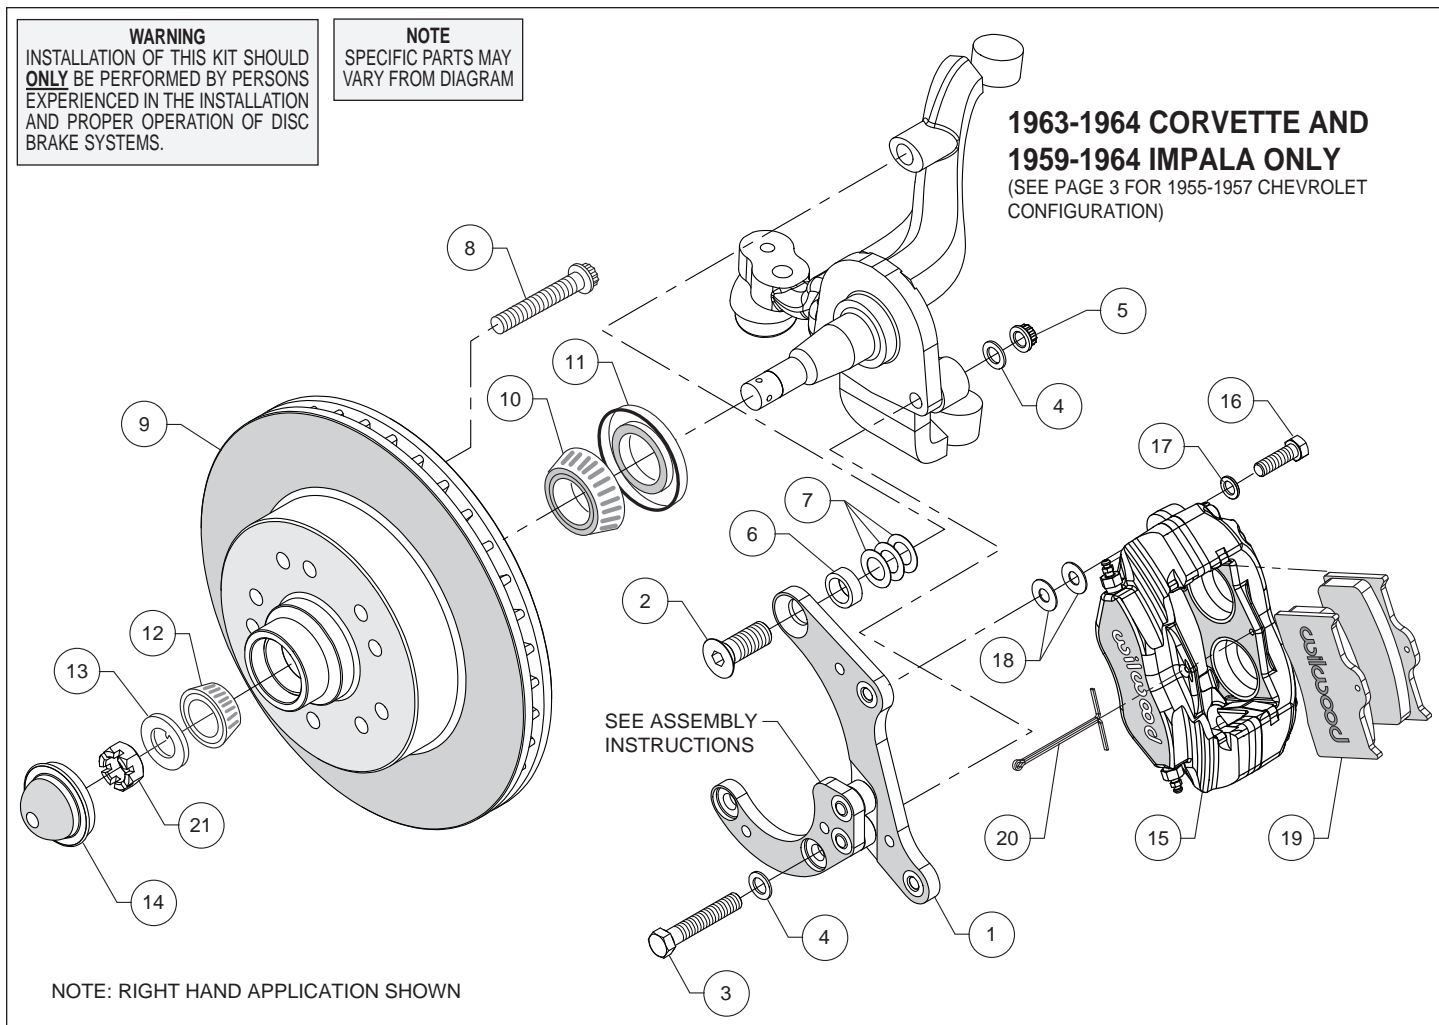
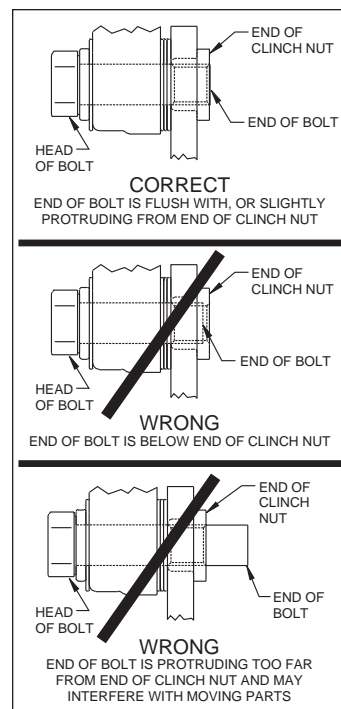

Figure 1. Typical Installation Configuration, 1963-1964 Corvette, 1959-1964 Impala/Belair
Figure 4. Clinch Nut Engagement Diagram
**Assembly Instructions** (numbers in parenthesis refer to the parts list and Figures 1 and 2 on the preceding pages): **CAUTION: All mounting bolts must fully engage clinch nuts.** Be sure to check that all bolts are either flush or protruding through flanged side of clinch nut after shimming, Figure 4.
- The caliper bracket (1) should initially be installed with clean, dry threads on the mounting bolts. The bracket has been assembled at the factory for alignment purposes. Loosen the two bolts that secure the brackets together so that the bolts are hand tight only. This will enable the bracket assembly to be adjusted to accommodate various spindle tolerances during assembly.
- Orient the bracket as shown in Figure 1 and Photo 1, and install using bolts (2) in the upper hole. Place a .345" thick spacer (6) positioned between the bracket and spindle, as shown in Figure 1. Initially use three .015" shims (7) on the upper bolt between the bracket and spindle, Figure 1. Install bolts (3), washers (4) and nuts (5) in the lower holes, Figure 1. Temporarily tighten the mounting bolts, followed by the two bracket-to-bracket bolts. **NOTE: The bracket must fit squarely against the mounting points on the spindle.** Inspect for interference from casting irregularities, machining ridges, burrs, etc. Later, after the bracket alignment has been checked, the bolts will be secured using red *Loctite*® 271.
- Pack the large inner bearing cone (10) with high temperature disc brake bearing grease (available from your local auto parts store) and install into the backside of the hub (9), Photo 3.
- Install the grease seal (11) by pressing into the backside of the hub (9), flush with the end of the hub.
- Temporarily install the hub/rotor (9) onto the spindle using outer bearing (12), spindle washer (13) and spindle nut (21). Check that the caliper mounting bracket (1) is aligned parallel to the rotor, Photo 4. If not, adjust by adding or subtracting shims (7) on the upper bolt between bracket and spindle, Figures 1 or 2. Once the bracket alignment is correct, remove the upper bolt (2 or 2A), apply red *Loctite*® 271 to the threads and torque to 140 ft-lb. Torque lower lock nuts to 47 ft-lb. Remove one at a time the bolts that secure the two brackets to each other, apply red *Loctite*® 271 to the threads and torque to 40 ft-lb.
- Press the dust cap (14) into the hub (9), Photo 7. **NOTE:** *Do not hammer center of cap. Install using outer flange only.*
- NOTE:** *Please reference the caution statement at the beginning of the assembly instructions.* Mount the caliper (15) onto the caliper mounting bracket (1) using bolts (16) and washers (17), as shown in Figures 1 or 2. Initially place two .035" thick shims (18) on each bolt between the caliper and the bracket, Photo 8. Temporarily tighten the mounting bolts and view the rotor (9) through the top opening of the caliper. The rotor should be centered in the caliper, Photo 9. If not, adjust by adding or subtracting shims (18) between the bracket and the caliper. Always use the same amount of shims on each of the two mounting bolts. **NOTE:** *The end of each bolt must be flush with or slightly protruding from the head of the clinch nut, as shown in Figure 4.* If necessary place spare shims between washer (17) and caliper mounting ear to achieve the proper clinch nut engagement. Once the caliper alignment and clinch nut engagement are correct, remove the bolts one at a time, apply red *Loctite*® 271 to the threads, and torque to 40 ft-lb.